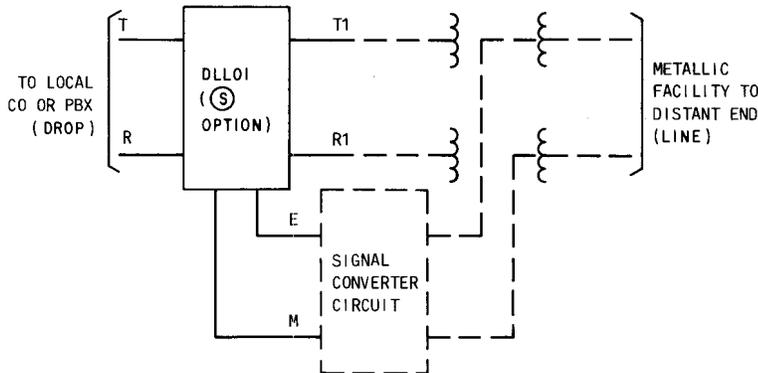

Fig. 6-22—DLL01 (S) Option Shown in Typical Application
**6.41 Description:** The DLL01 (Fig. 6-22 and 6-23) is a loop to E & M lead signaling converter used at the CO or PBX end of a loop start circuit. It is normally associated with either out-of-band carrier signaling systems (O, ON, N1, or T1 Carrier) or CX, DX or SX signaling on metallic facilities. Other arrangements may be used such as association with SF signaling (In-band), however, those are non-standard and can cause difficulties. In either case, the basic operation of the E & M leads and T-R will remain the same. Primary applications are off premises extensions, WATS Lines, one-way PBX-CO trunks and some FX circuits. At the customer end (station) of the circuit, a DLL03 (see 6.45) is normally used to convert back to loop signaling.